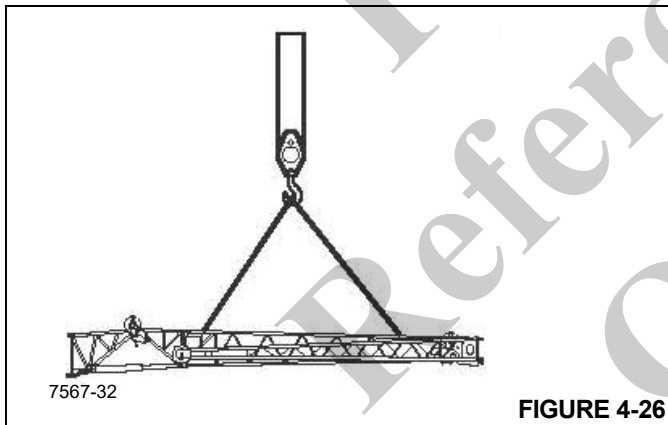

FIGURE 4-26
5. Using a sling attached to an auxiliary crane, lift the extension in front of the main boom (Figure 4-26).